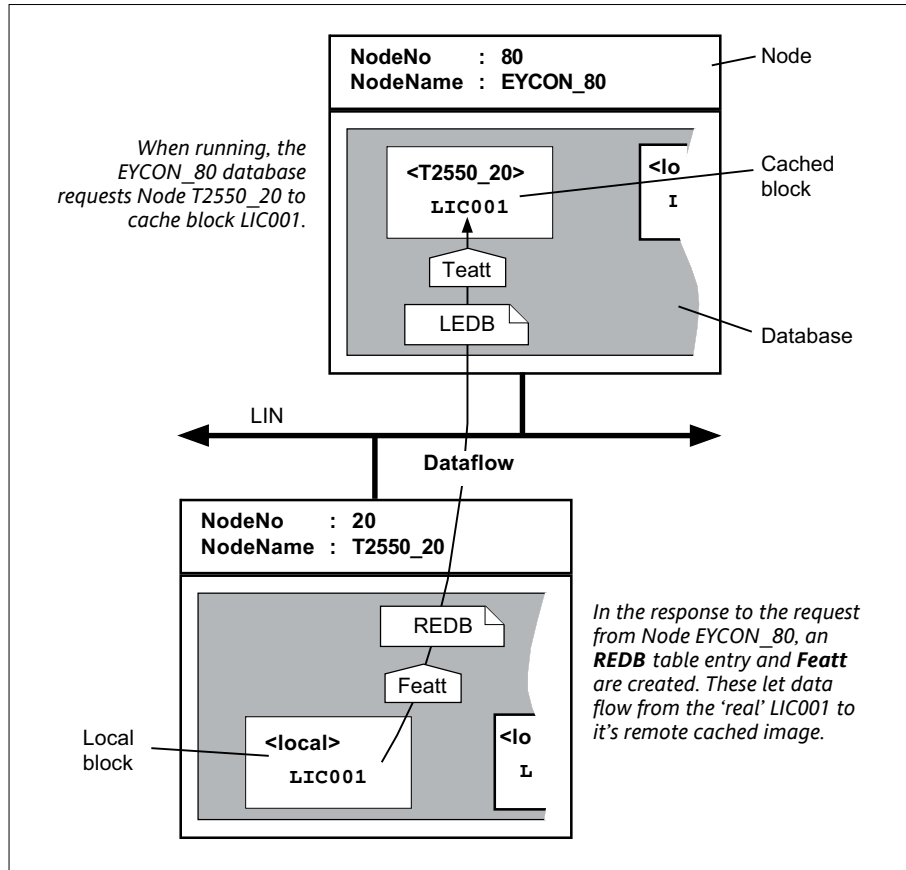

Figure 127 Block-caching at runtime
2. Block-caching at runtime (*Figure 127*)
Figure 127 shows what happens when the configured databases are running.